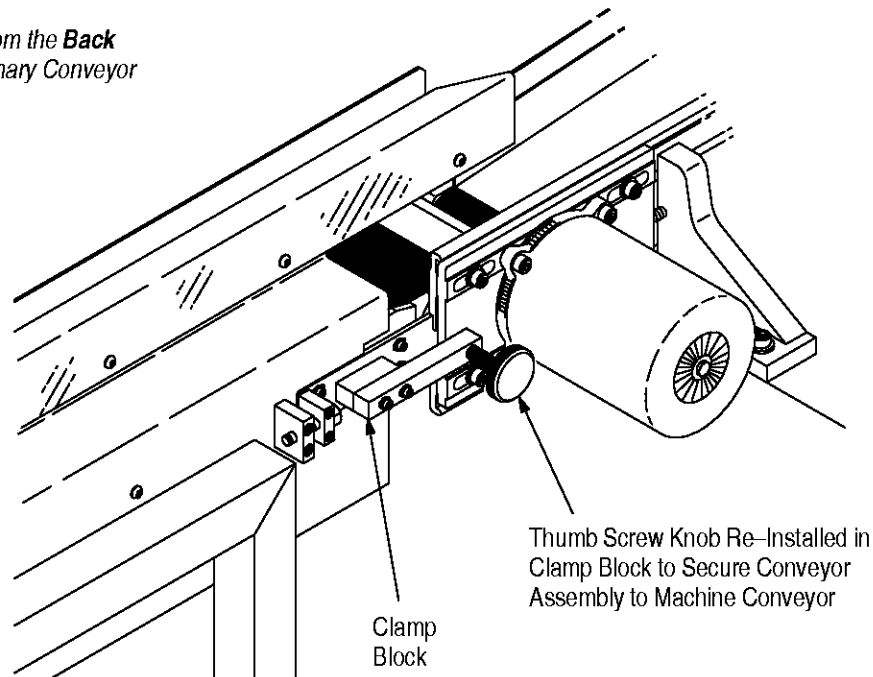

Figure 6
6. Re-install the thumb screw knob into the threaded hole of the clamp block; then tighten it to secure the primary conveyor assembly to the machine. See Figure 6.